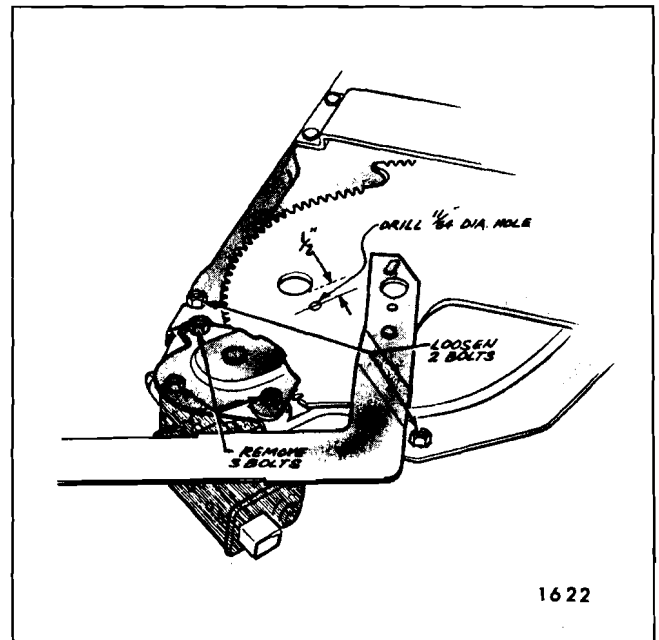

Fig. 9-43—Tail Gate Regulator Motor Assembly
4. Drill a 1/8" hole through regulator sector and back plate (See Fig. 9-43). DO NOT drill hole closer than 1/2" to edge of sector gear or back plate. Install a pan head sheet metal tapping screw (#10-12 x 5/8) in drilled hole to lock sector gears in position.